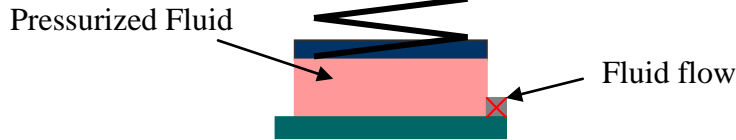

Fig 5.25 Spring - Type Accumulator
2. **Spring – Loaded Accumulator :** A spring loaded accumulator is similar to the weight – loaded type except that the piston is preloaded with a spring as shown in fig 5.25. The spring is the source of energy that acts against the piston, forcing the fluid into the hydraulic system. The pressure generated by this type of accumulator depends on the size and pre-loading of the spring. In addition, the pressure exerted on the fluid is not a constant. The spring- loaded accumulator typically delivers a relatively small volume of oil at low pressures. Thus, they tend to be heavy and large for high- pressure, large – volume systems. This type of accumulator should not be used for applications requiring high cycle rates because the spring will fatigue and lose its elasticity. The result is an inoperative accumulator.